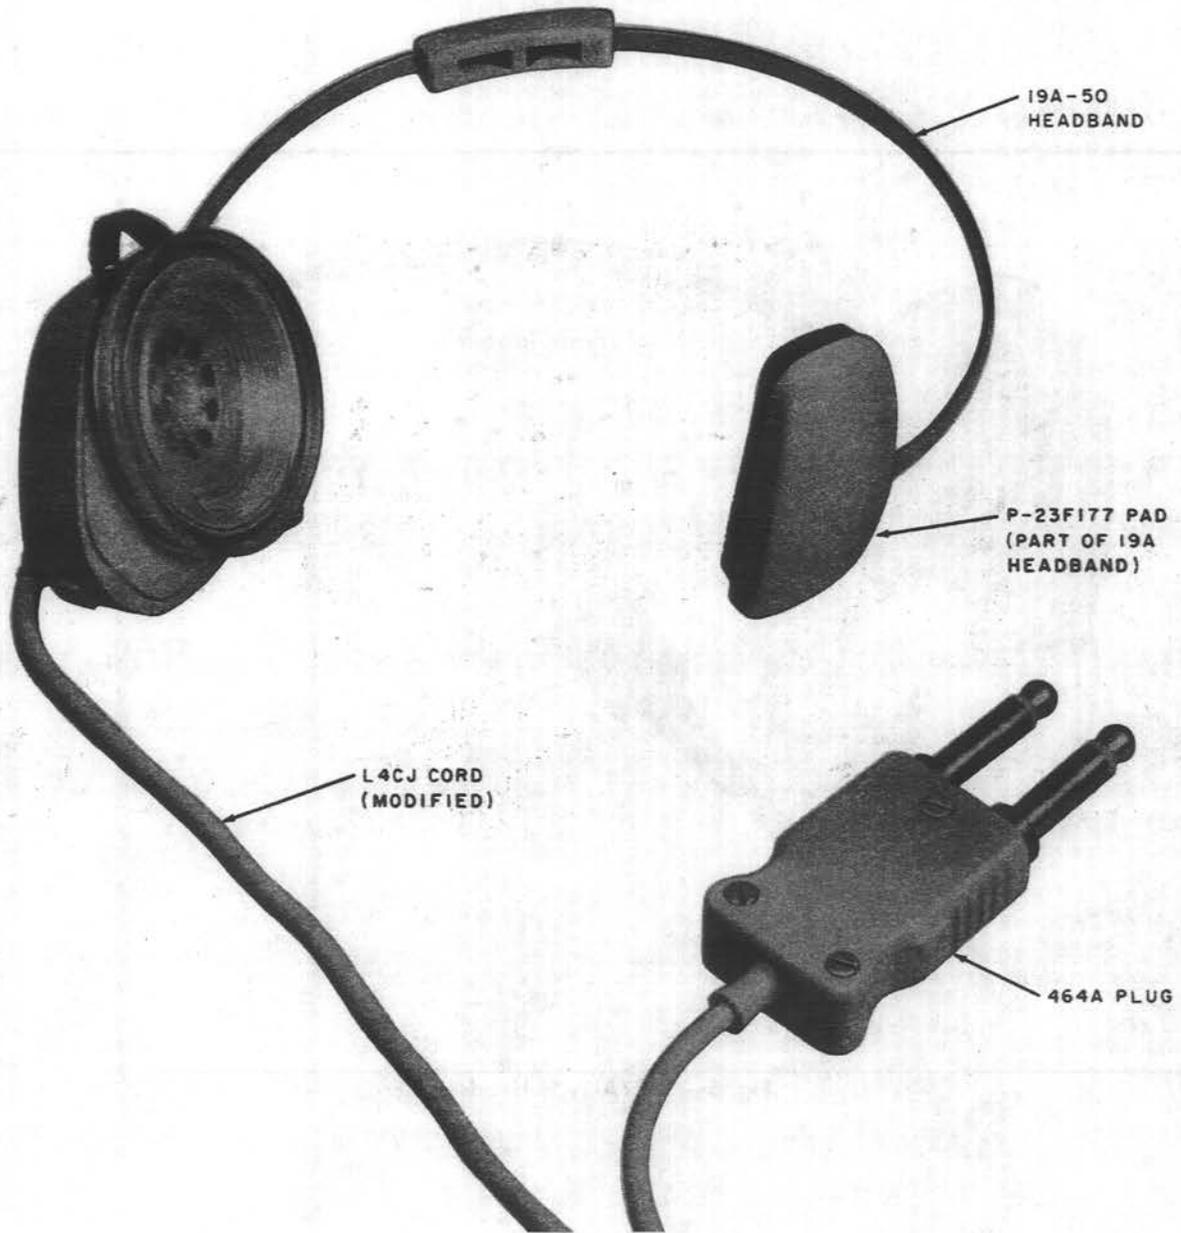

Fig. 4—1026A-Type Headset
2.07 The 1026A-type headset (Fig. 4) is designed as an alternative to the 1020B dual headset for use at the service observing desk. The 1026A headset parallels both service observing channels at a given position and applies them to a single receiver unit. The 1026A-type headset is available in ivory (-50) color only.